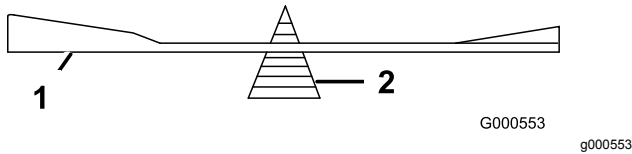

Figure 119
- Check the balance of the blade by putting it on a blade balancer (Figure 119).